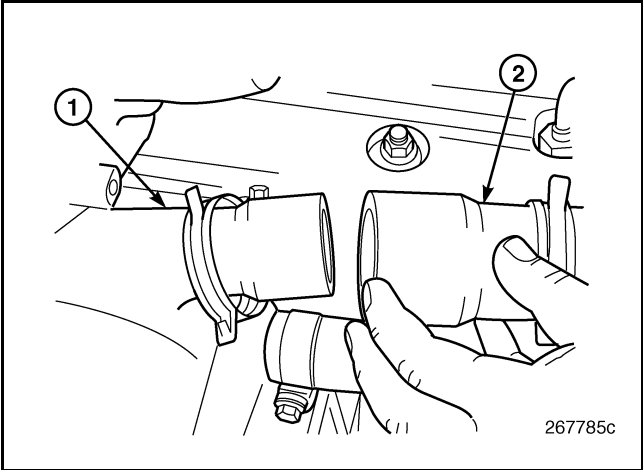

Figure 137 — Cool Tube Coupling Hose Removal
4. Remove the cool tube and coupling hoses from the engine (Figure 137). Inspect the tube for corrosion or damage and the hoses for deterioration. Replace as required.